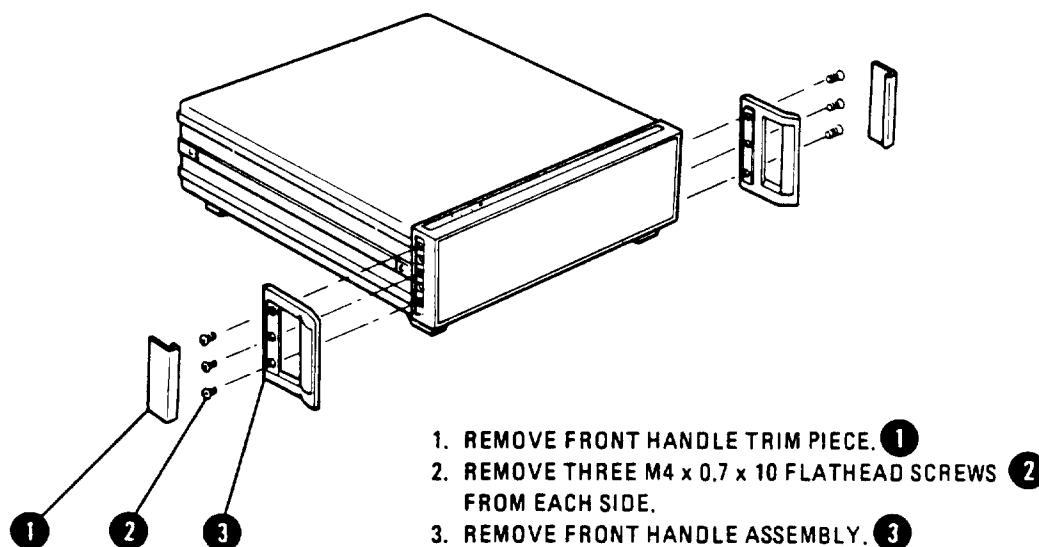

Figure A-10. Front Handle Removal
1. Remove front handles (see Figure A-10) and side strap handles.